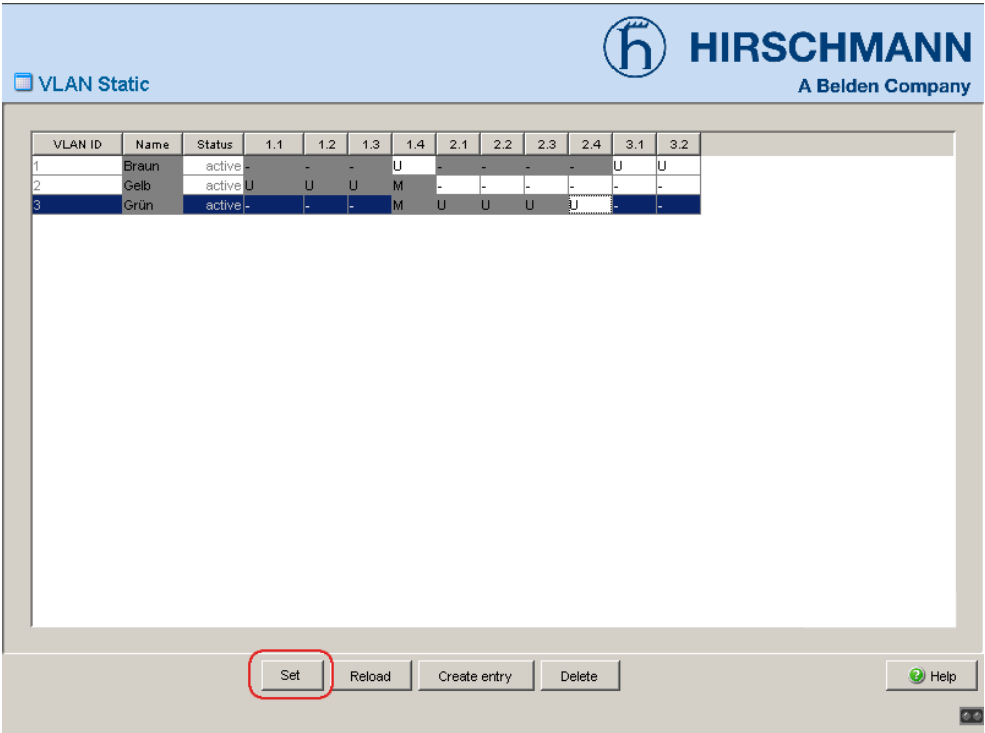

Figure 46: Saving the VLAN configuration
**Note:** Save the VLAN configuration to non-volatile memory (see fig. 46).